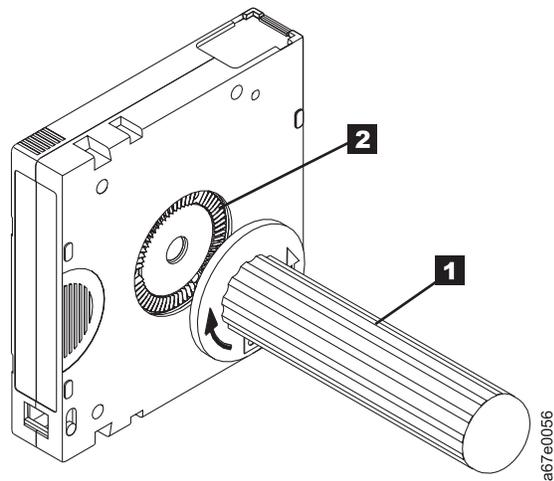

Figure 52. Rewinding the tape into the cartridge
5. To rewind the tape, insert the cartridge manual rewind tool (**1** in Figure 52) into the cartridge's hub **2** and turn it clockwise until the tape becomes taut.